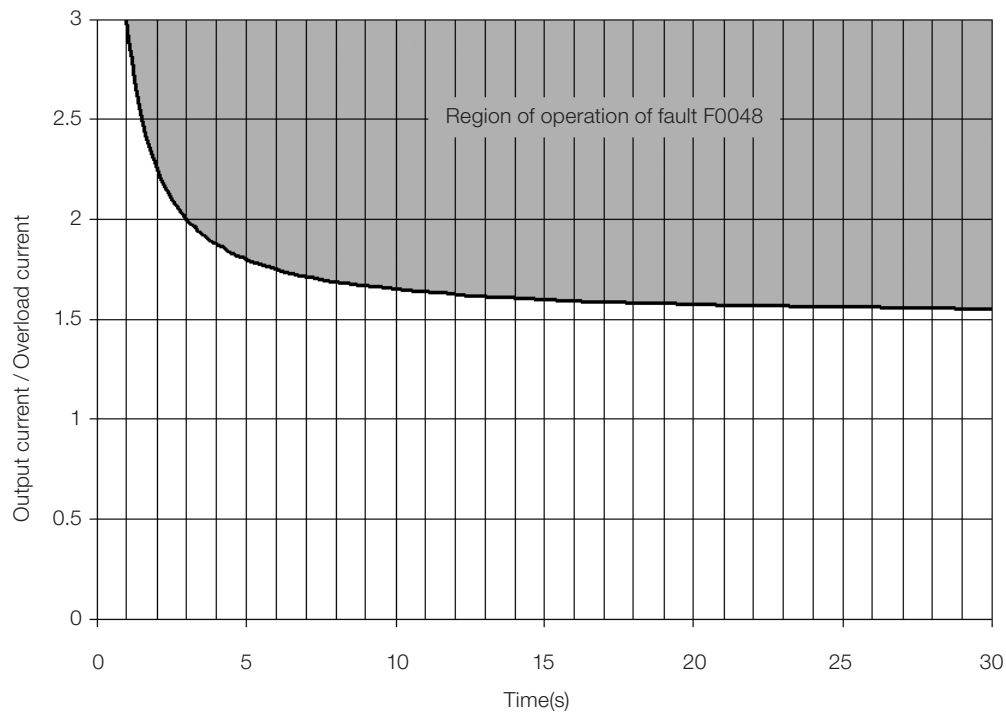

Figure 17.2: Actuation of the overload of the IGBTs (Heavy Duty - HD)
The CFW500 IGBTs overload protection uses the same motor protection format. However, the design was changed so that fault F0048 occurs in three seconds for 200 % of overload for heavy duty (HD) (P0298 = 1), in relation to the inverter rated current (P0295), as shown in Figure 17.2 on page 17-4. On the other hand, the IGBTs overload (F0048) has no actuation for levels below 150 % of the inverter rated current (P0295).